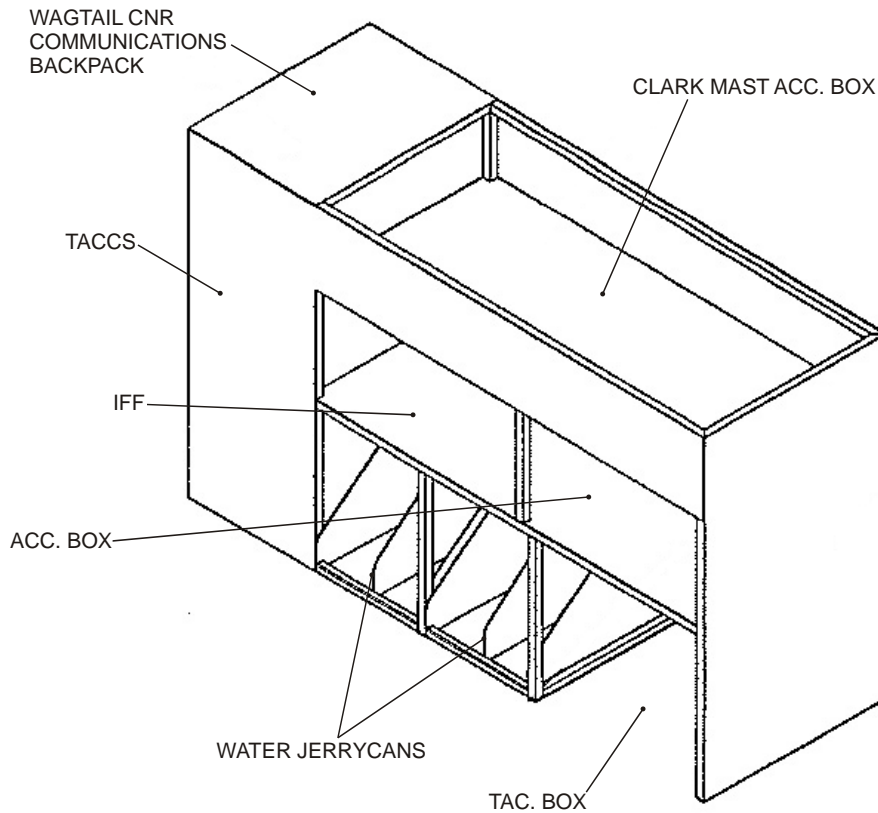

Figure 8 Drivers Side Stowage
14. The rear driver's side module (Figure 8) is located behind the missile stowage module on the right hand side of the vehicle. This module contains stowage for a Wagtail Combat Net Radio (CNR) communications backpack, TACCS, IFF, ACC Box, TAC Box, Clark Mast Accessory Box and water jerrycans.